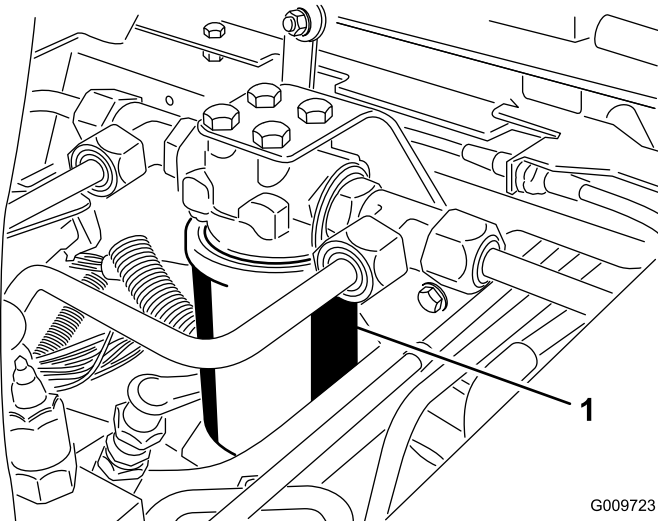
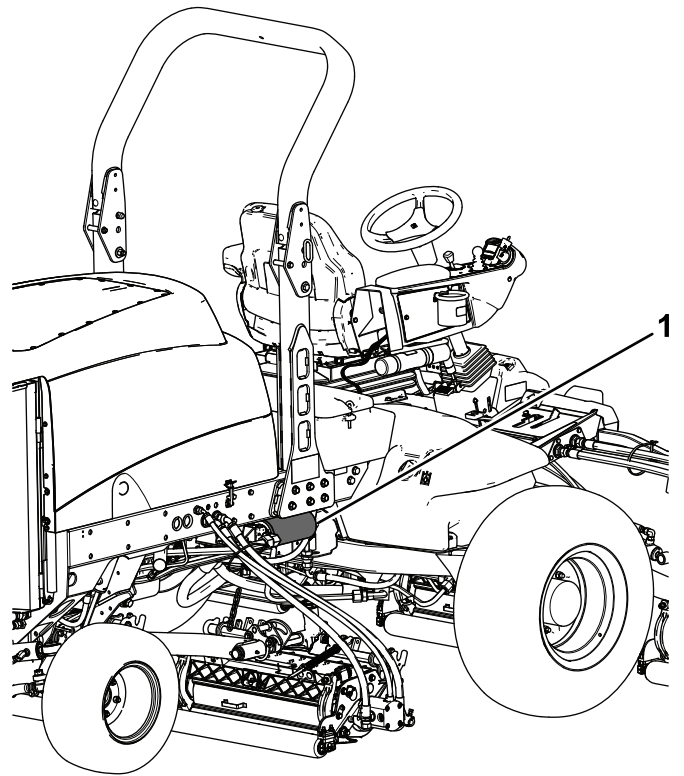

Figure 81
Figure 82
3. Place a drain pan under the filter and remove the filter (Figure 81 and Figure 82).